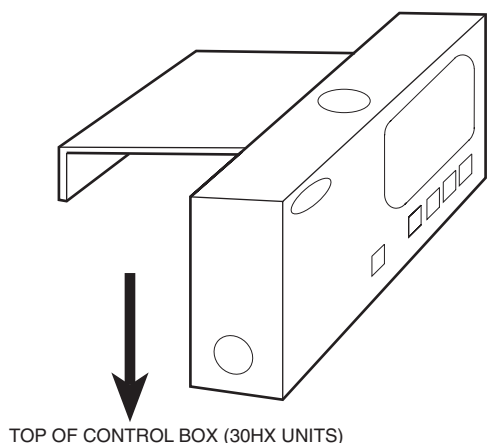

Fig. 9 — Installing Display and Bracket on Unit (30HX)
- On 30HX units, position the enhanced display mounting bracket over the top of the chiller control box in the desired location. See Fig. 9. For 30GX units, mount the display in a suitable indoor location.